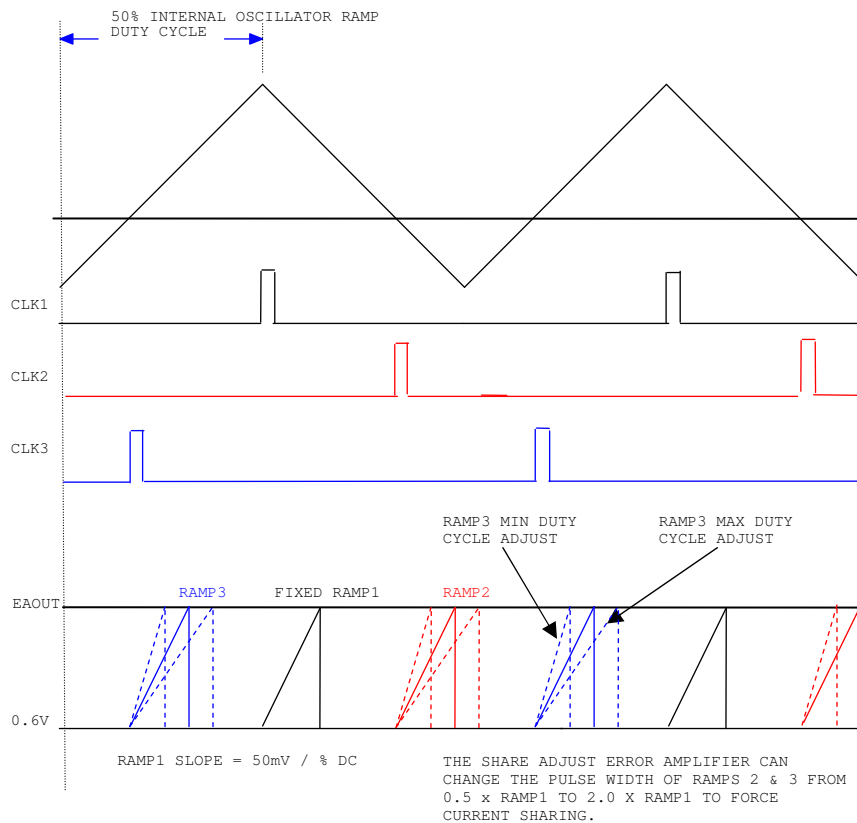
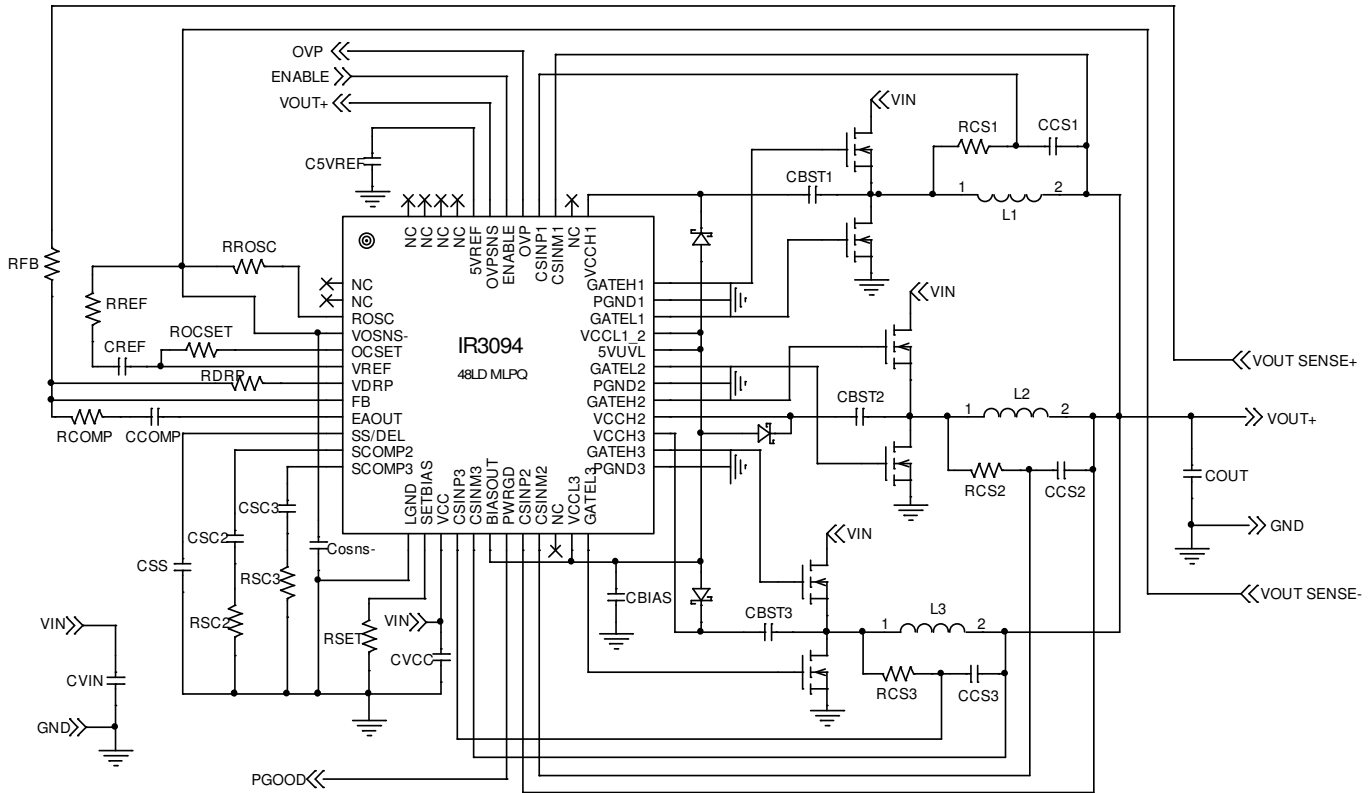

Figure 3 – 3 Phase Oscillator and PWM Waveforms
Figure 6 – System Diagram
Refer to Figure 3. Upon receiving a clock pulse, the RSFF is set, the internal PWM ramp voltage begins to increase, the low side driver is turned off, and the high side driver is then turned on. For phase 1, an internal 9pF capacitor is charged by a current source that proportional to the switching frequency resulting in a ramp rate of 50mV per percent duty cycle. For example, if the steady-state operating switch node duty cycle is 10%, then the internal ramp amplitude is typically 500mV from the starting point (or floor) to the crossing of the EAOUT control voltage. When the PWM ramp voltage exceeds the Error Amplifier's output voltage, the RSFF is reset. This turns off the high side driver, turns on the low side driver, and discharges the PWM ramp to 0.6V until the next clock pulse.
The oscillator frequency is programmable from 100kHz to 540kHz with an external resistor RROSC as shown in Figure 6. The Oscillator generates an internal 50% duty cycle sawtooth signal (Figure 3.) that is used to generate 120° out-of-phase timing pulses to set Phase 1,2 and 3 RS flip-flops. Once the switching frequency is chosen, RROSC can be determined from the curve in the Typical Operating Characteristics Section.
The inductor DC resistance R_L is utilized to sense the inductor current. The current limit threshold is set by a resistor R_{OCSET} connected between the OCSET and VREF pins, as shown in Fig6. I_{LIMIT} is the required over current limit. I_{OCSET} , the bias current of OCSET pin, is set by R_{ROSC} and is determined by the curve in the Typical Operating Characteristics Section. OCP need to satisfy the high temperature condition. R_{L_MAX} and R_{L_ROOM} are the inductor DCR at maximum temperature T_{L_MAX} and room temperature T_{ROOM} respectively, the maximum inductor DCR can be calculated from Equation (9)
The voltage at the VDRP pin is an average of three phase Current Sense Amplifiers and represents the sum of the VREF voltage and the average inductor current of all the phases. The VDRP pin is connected to the FB pin through the RDRP resistor, see figure 6. The Error Amplifier forces the voltage on the FB pin to equal VREF through the power supply loop therefore the current through RDRP is equal to (VDRP-VREF) / RDRP. As the load current increases, the VDRP voltage increases accordingly which results in an increase in RFB current, positioning the output regulated voltage lower thus making the output voltage reduction proportional to an increase in load current. The droop impedance or output impedance of the converter can thus be programmed by the resistor RDRP. The offset and slope of the converter output impedance are independent of the VREF voltage.
The maximum and minimum duty cycle adjust range of Ramps 2 & 3 compared to Ramp1 has been limited to a minimum of 0.5x and a maximum of 2.0x typical (see Figure 3.). The crossover frequency of the current share loop can be programmed with a capacitor at the SCOMPX pin so that the share loop does not interact with the output voltage loop.